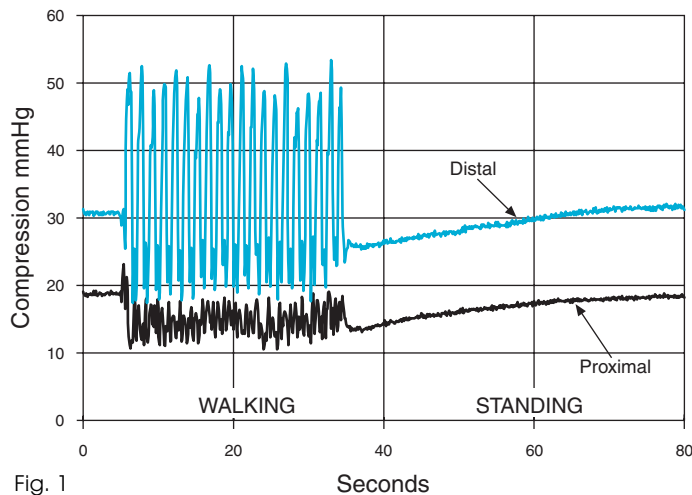

Fig. 1
- Graduated aircell compression for edema control (Fig. 1)
The XP Diabetic Walker System is applied and the aircells are inflated in sequence (see instructions). The proximal aircell overlaps the distal, providing a gap-free pressure gradient. When walking, the aircells provide pulsating, graduated compression that helps to control edema and offers exceptional support and comfort (Fig. 1).